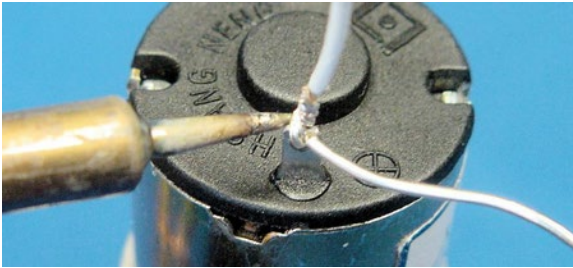

Figure 22-5. Soldering iron tip on one side of the wire, solder on the other side of the wire
1. Touch the soldering iron tip to one side of the motor terminal and wire, directly at the point of connection (see Figure 22-5). It is important to make as much contact with the clean, tinned tip so that heat transfers to the wire and motor terminal.